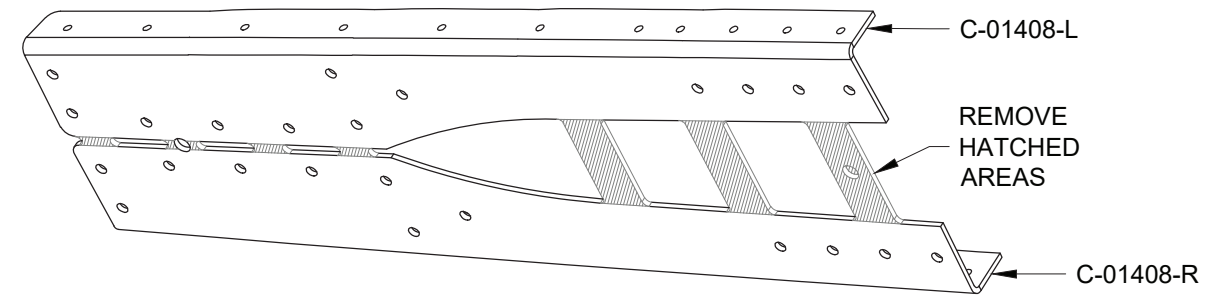

FIGURE 2: FORWARD CANOPY RAIL BASES
Step 6: Separate the C-01408 Forward Canopy Rail Bases as shown in Figure 2.